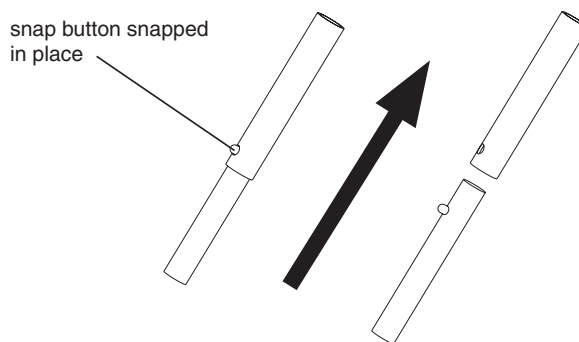

FIGURE 7
18. Assemble the two sets of door spreader poles (68046 & 68048) by sliding male half into the female half and snapping in place with snap button. **SEE FIGURES 7.**
19. Unzip door and move to the inside of shelter and extend the (3) top cross brace poles and snap into place. Place back spreader pole with stud, both roof spreader poles and both door spreader poles into position by snapping C-clip over cross brace poles. For back spreader pole, simply place end with stud into pre-drilled hole in back lip of sled. Attach all Velcro loops to cross brace poles. **SEE FIGURES 7 & 8.**